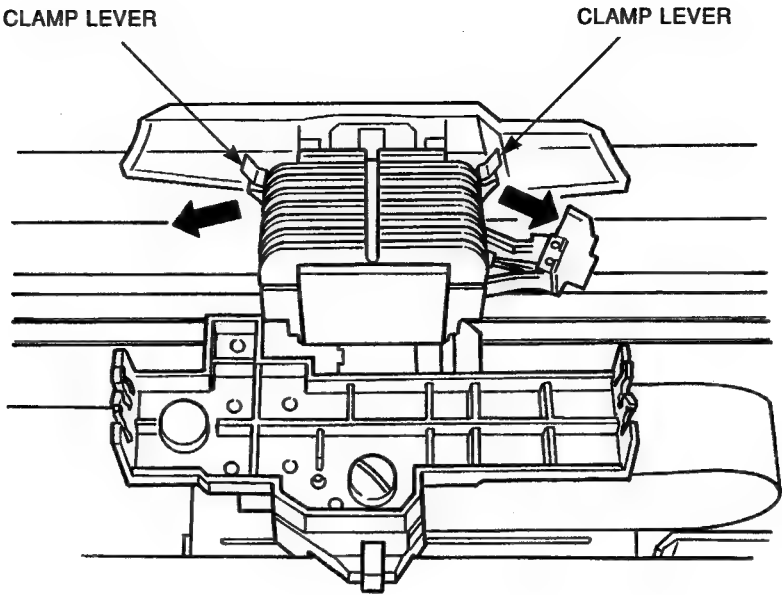

Figure 3-4 Clamp Lever Release
4. Unlock the clamp levers by pulling them outward (see Figure 3-4).